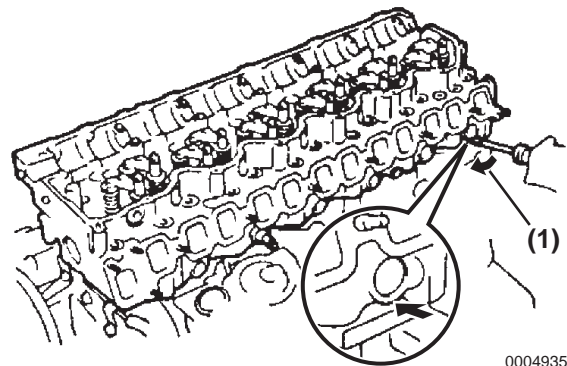

Figure 5-13
17. Lift the cylinder head from the cylinder block. If needed use a suitable tool to insert between the cylinder head and block to pry loose **(Figure 5-13, (1))**. **NOTICE: AVOID damaging the cylinder block and head surfaces when removing the cylinder head.**